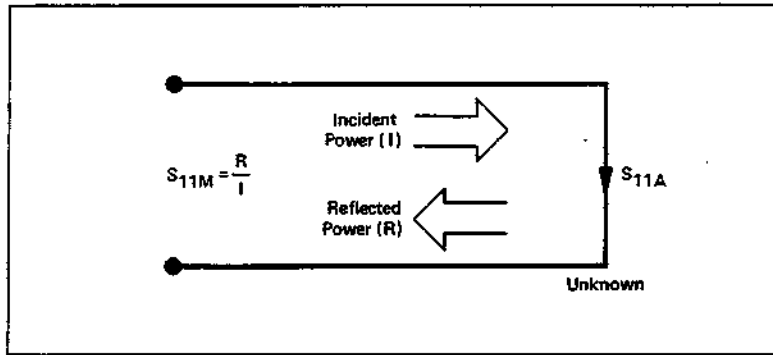

Figure 7-50. Reflection Coefficient
Measuring reflection coefficient. The reflection coefficient is measured by first separating the incident signal (I) from the reflected signal (R), then taking the ratio of the two values (Figure 7-50). Ideally, (R) consists only of the signal reflected by the test device (S11A).